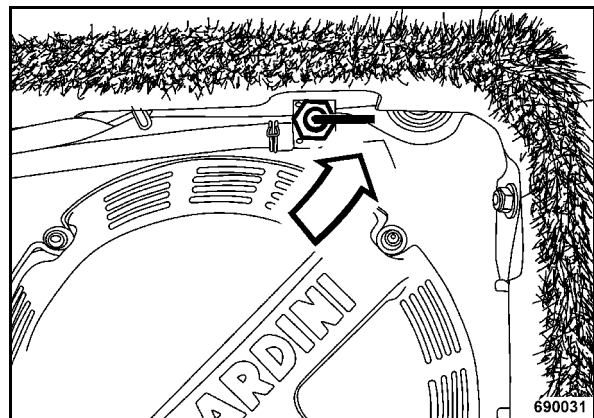

Fig. 62
- Close the fuel tap (Fig. 62), set the handle to horizontal position.